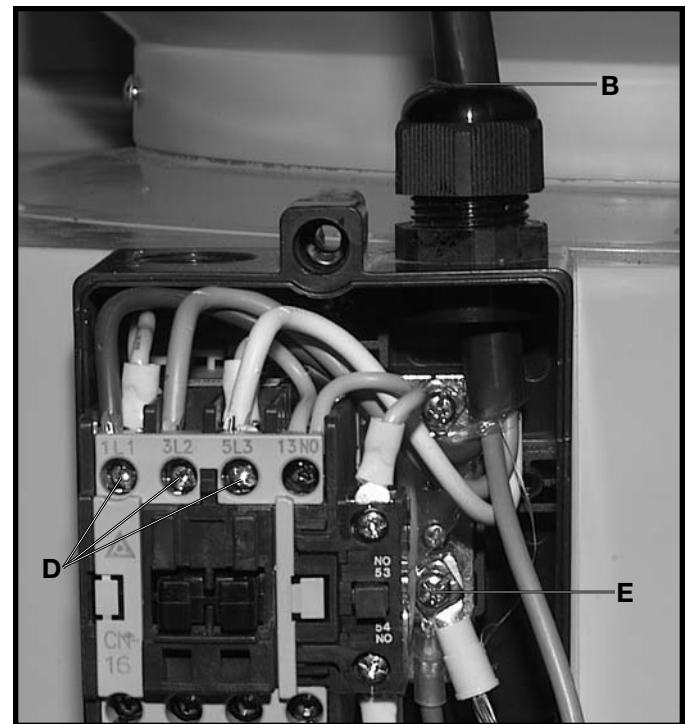

Fig. 34
2. Bring the power cord through the access hole (B) Fig. 34, in the controller box, and connect the three power lines to terminals (D) and the green ground wire to ground screw (E). **NOTE: THE POWER CORD MUST BE INSERTED THROUGH THE BUSHING IN THE ACCESS HOLE (B), TIGHTEN THE ACCESS HOLE NUT OVER THE ACCESS HOLE TO HOLD THE POWER CORD IN PLACE.**
3. After connecting the power cord to the machine, make certain the rotation of the motor is in the proper direction by viewing the rotation of the blower fan. The fan should rotate in a clockwise direction. **CAUTION: DO NOT INSERT FINGERS OR ANY FOREIGN OBJECT INTO THE DUST INTAKE PORT.** Rotation of the motor can be reversed by interchanging any two of the three incoming power lines connected to terminals (D) Fig. 34. Replace controller cover (C).